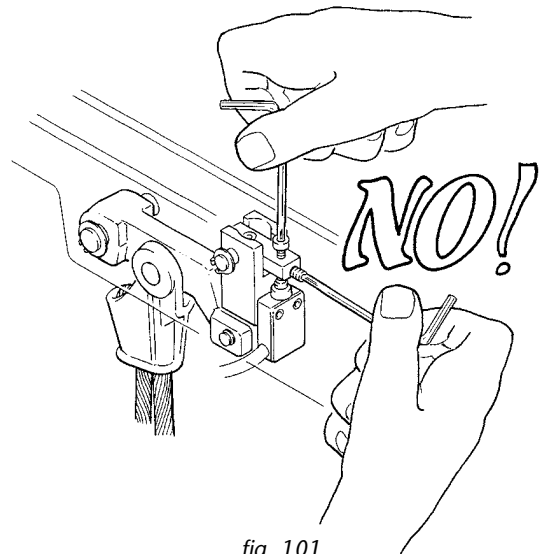

fig. 101
- The overload device is a component with the safety function of **preventing overload** and the calibrations **MUST NOT** be changed (fig. 101).